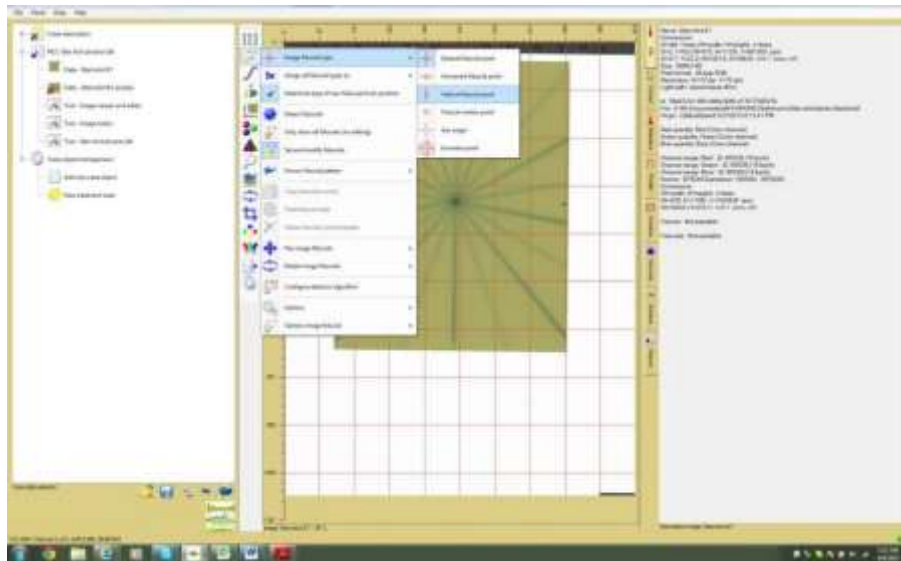
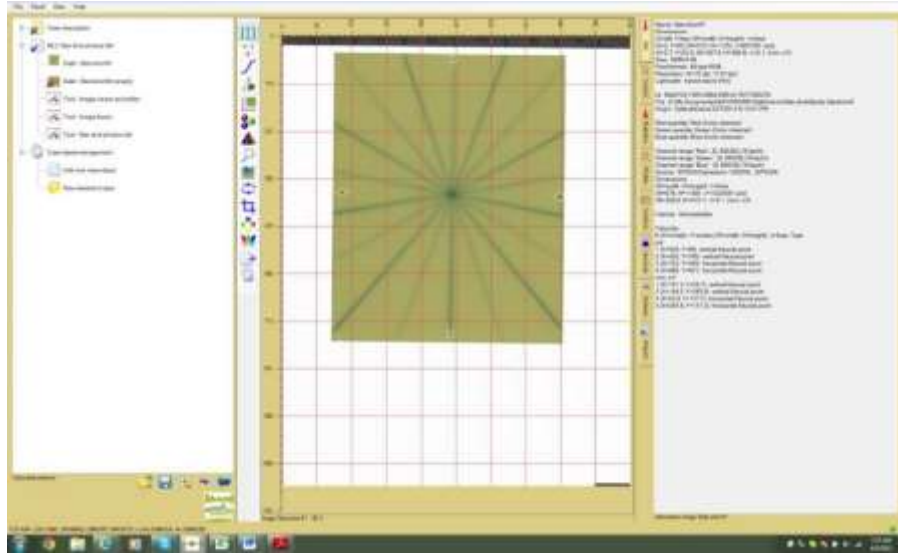

Figure 5: Gantry starshot film image and selection of vertical fiducial mark
Figure 6: Gantry starshot with software fiducial marks in place
5. Put the star shot film in the center of the scanner and scan it. The analysis does not involve dosimetry, so no warm-up scans are required, and the film can be placed in any orientation. Then using the fiducial management tool select and place horizontal markers on the fiducial marks scribed on the sides of the film and vertical markers on the ends – Figure 5. In the case of the gantry star shot there are no pen marks at the ends. In that case, place the software fiducials close to where the  $0^\circ$  beam line crosses the edge of the film. To make fine adjustments highlight a fiducial mark, hold down the Ctrl key and use the keyboard arrows to move the mark and center it. Figure 6 shows a gantry star shot image with the software fiducials highlighting the scribed fiducial marks and the  $0^\circ$  beam line.